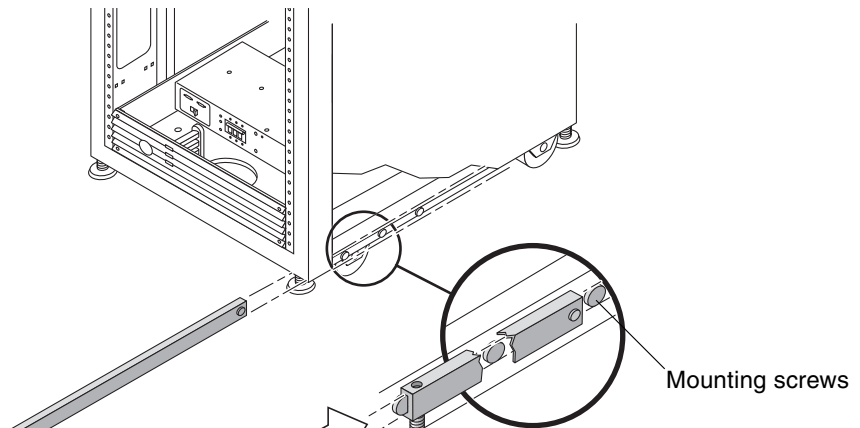

FIGURE 2-4 Installing the Right Stabilizer Leg
3. Slide the right stabilizer leg over the three mounting screws at the bottom of the system cabinet (FIGURE 2-4) and fully extend it.